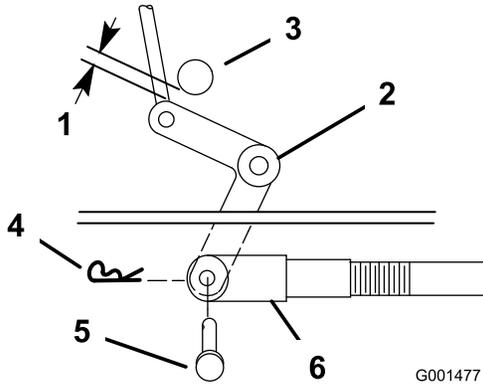
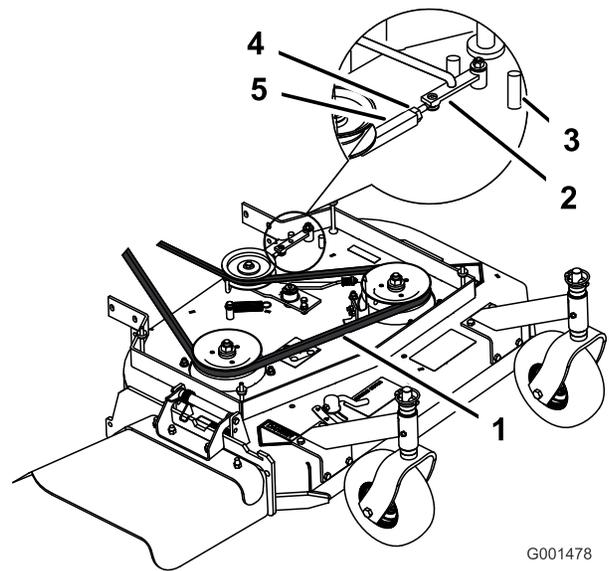
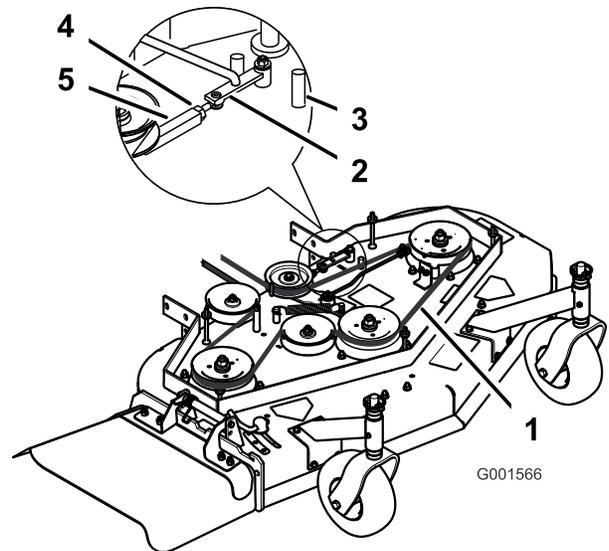

Figure 39
Figure 40
Figure 41
9. Check the clearance between the bell crank and the transmission output shaft (Figure 39).
11. Rotate the clevis clockwise on the rod to increase the clearance; rotate it counterclockwise to decrease it (Figure 39).
Note: If the assist arm does not contact the front stop on the mower deck (Figure 40 or Figure 41), adjust the clevis to bring the bell crank closer to the transmission output shaft (Figure 39).